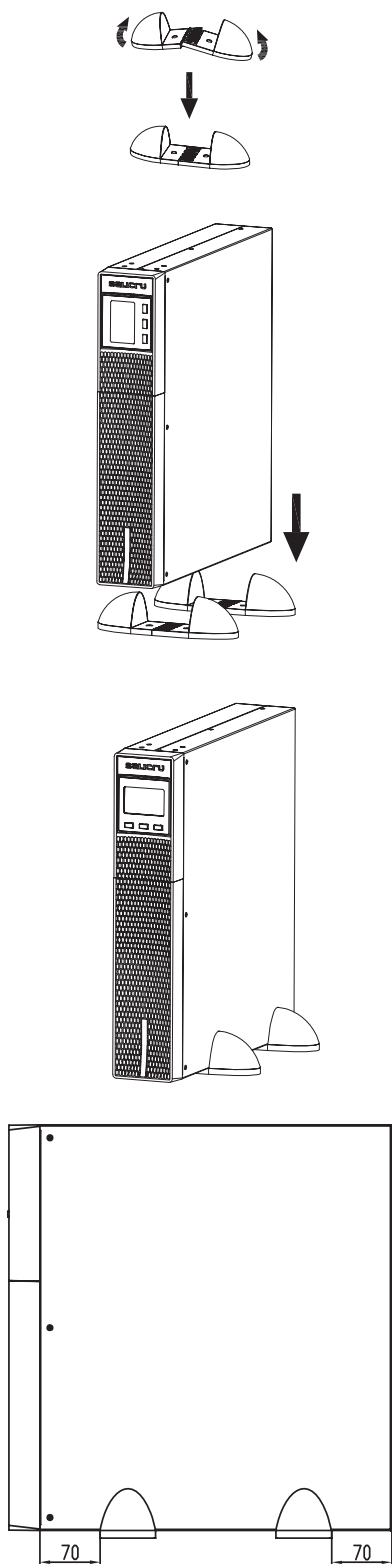

Fig. 6. Vertical tower-type mounting.
- Place the UPS upright between the two bases at a distance of 70 mm from each end (see Fig. 6).